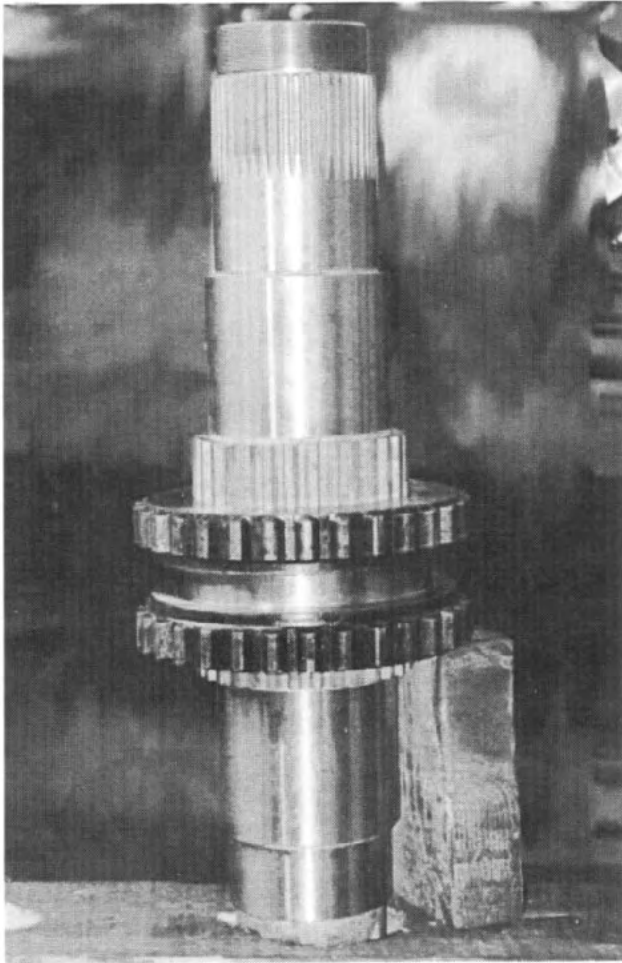

Fig. 45
2. Using a wooden block to hold the shaft in an upright position, install the clutch collar gear onto the shaft. See Fig. 45.